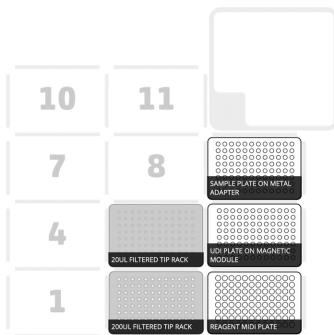

Figure 3. Deck map for Post 1 - Enrichment protocol.
- h. Load reagents and other labware onto the deck as shown in the deck map (also shown in Figure 3).